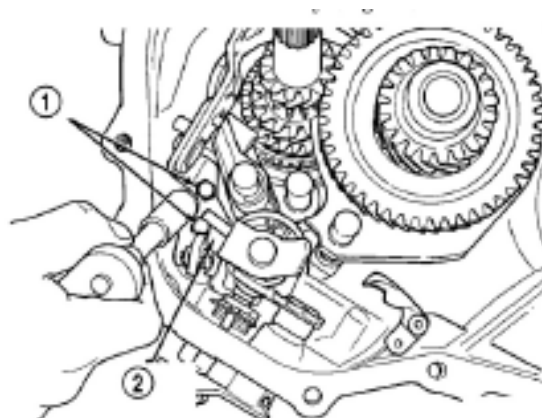
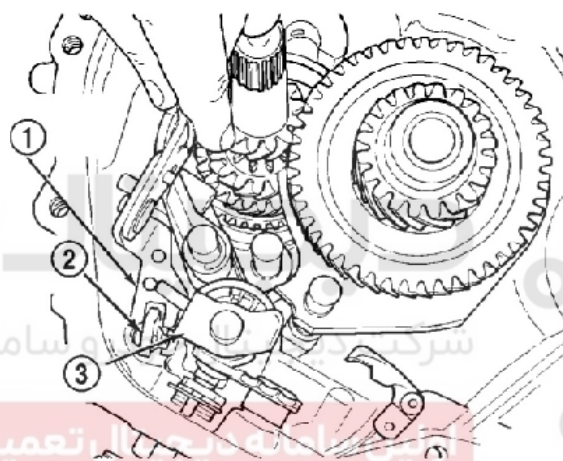

Figure 3-44 Fixing bolts for reverse shift fork bracket
Figure 3-45 Disassembly of reverse shift fork bracket
(12) Screw off the 2 bolts to fix the reverse shift fork bracket (Figure 3-44) and remove reverse shift fork and reverse cam assembly (Figure 3-45).